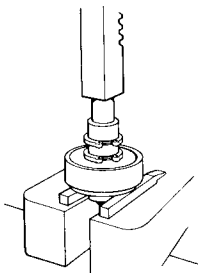

Fig. 20
5. Using two metal bars (Tool F) to support bearing in press, press **BEARING SHIELD** and **MAIN BEARING** back against first retainer ring (Fig. 20).